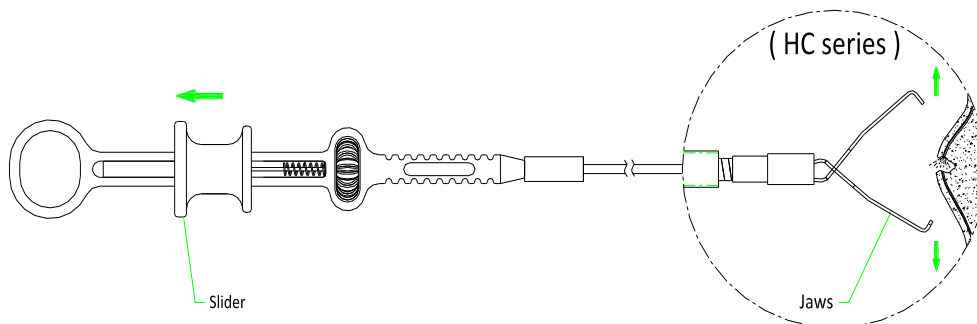

Figure 1.4: Open the Clip jaws
1.4. When the Clip is at the desired location, move slowly the slider proximally (close to the thumb ring) to open the Clip jaws, as shown in Figure 1.4.